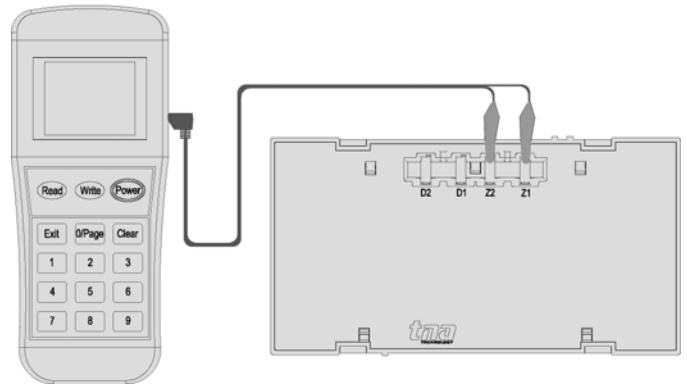

Figure 5
1. Connect the programming cable to Z1 and Z2 terminals (Figure 5). Press **"Power"** to switch on the unit.